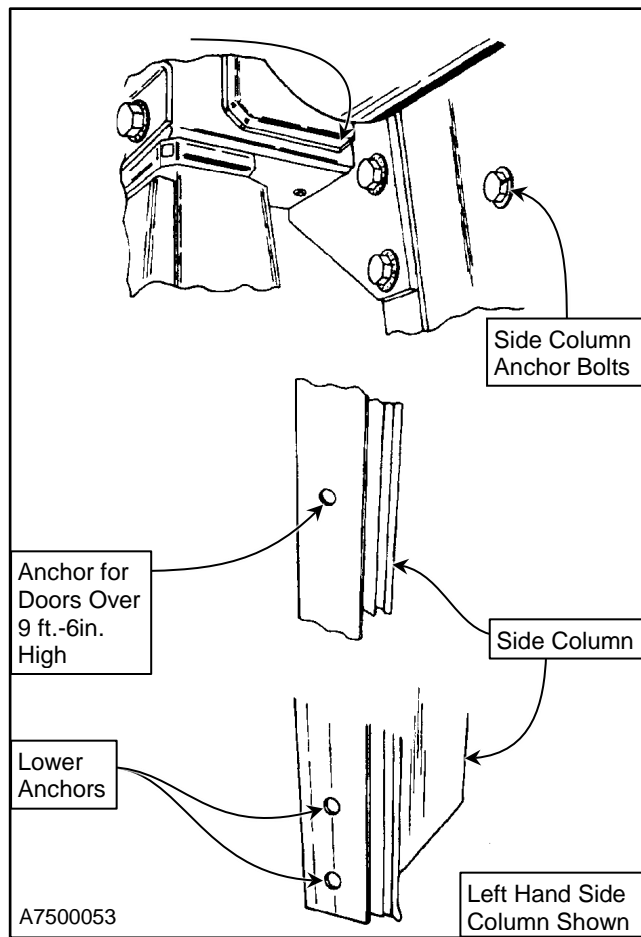

Figure 16
Check all mounting hardware to ensure all nuts, bolts, set screws, and anchors are tight. Example: motor mounting hardware, anchor or through wall bolts, bearing block, mounting hardware, etc. (See Figure 14 - Figure 16)
4. Inspect all nuts, bolts, threaded rods, and anchors used to secure the side columns to the wall. Tighten any loose hardware. Replace any missing or damaged hardware as required. (See Figure 16)